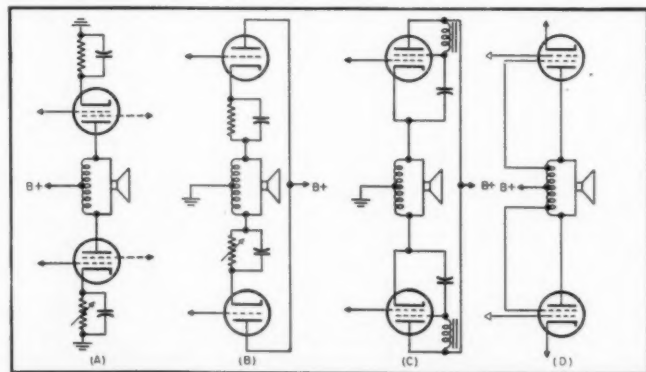

Fig. 6. Four possible circuit arrangements for push-pull output stage. Note that all such circuits require tapped voice coils.
We now turn our attention to push-pull OTL design. Figure 6 shows a push-pull plate-loaded OTL stage at (A). The screen grids have been drawn in dotted lines to indicate that either triodes or beam power tubes can be used. (If the latter are used, the screens could be fed in the conventional manner or as done in the Williamson arrangement.) Here direct coupling is practical because equal and opposite direct currents flow through the voice coil, and their magnetic fields cancel each other. For the